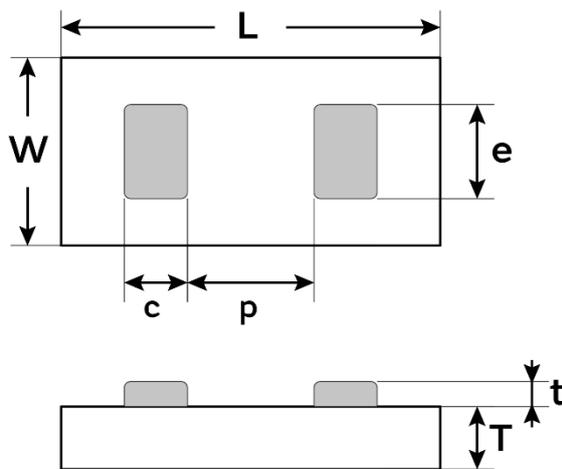

Figure 8 - Package outline drawing
(1) Other Film Frame Carrier are possible on request
(2) SAC = ENIG (0.1µm Au / 5µm Ni) + SAC305 type 6 or ENIG (0.1µm Au / 5µm Ni)
(3) missing capacitors can reach 0.5%
(4) refer to Figure 8